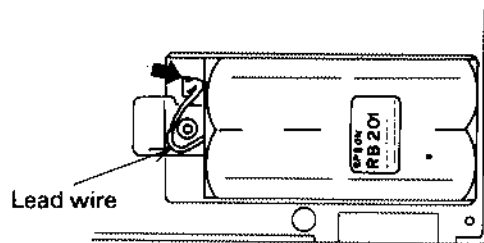

Fig. 4-39 Main Battery Installation
- Step 5. Connect the new battery connector and put the battery in place and lay the lead wire as shown in Fig. 4-39 – lay the lead wire so that it is pushed against the case and the pressure prevents it from rising.